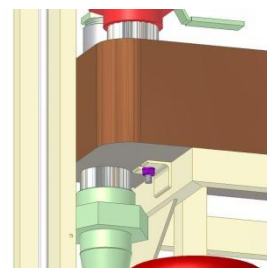

Figure 6.2-3
2. Remove the one M8 nut from underneath the heat exchanger (marked violet in Figure 6.2-3).